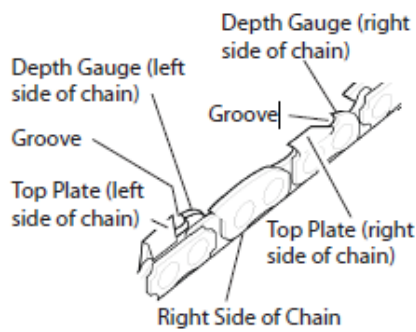

Fig. 6a
- 3) Rest a 5/32” round file (attached to a file guide) between top plate and depth gauge, then sharpen the cutters as illustrated in Fig. 6a and 6b.